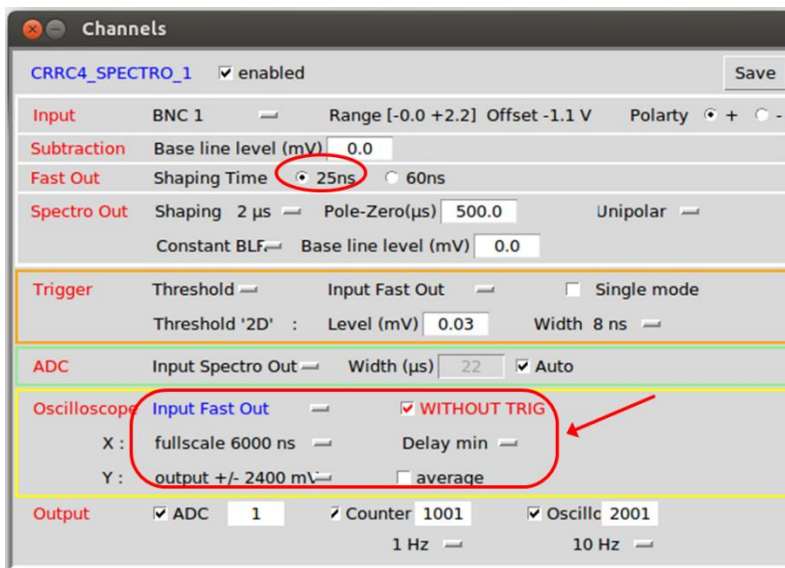

Figure 63: Oscilloscope tunings to inspect the “Fast Out” signal
You may tune the oscilloscope parameters as shown on Figure 63, i.e.:
**Step 4:** Select the 25ns shaping time in the “Fast Out” section, as shown on Figure 63.